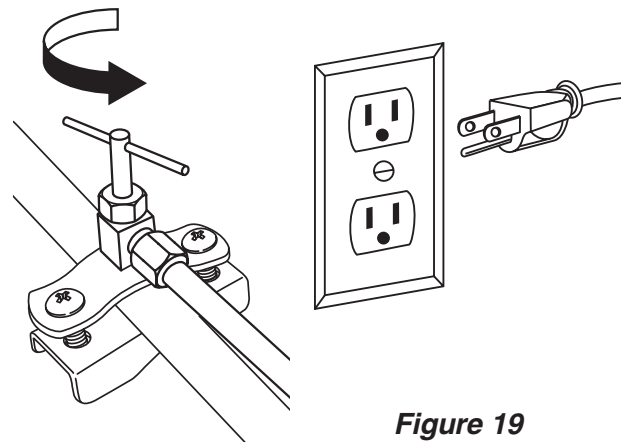

Figure 19
Connection to the Water Supply - Figures 19, 20
4. Insert the electrical plug for the combined refrigerator/freezer into the electrical outlet (Figure 19).